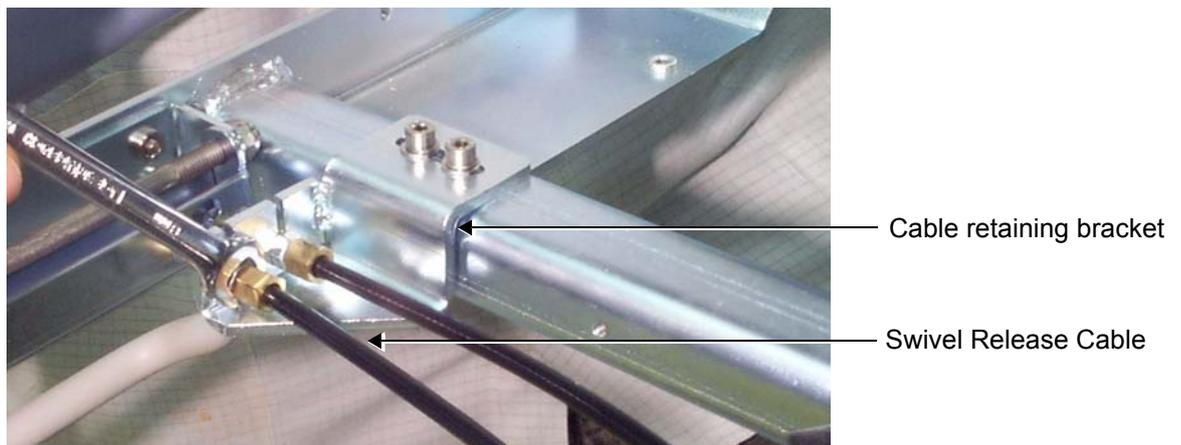

Figure 8-80 Releasing the Swivel Release Cable Securing Nut
- 4.) Feed the swivel release cable down into the slot in the cable retaining bracket (refer to Figure 8-80 on page 8-96) and tighten the securing nut against the bracket to hold the cable firmly in position.